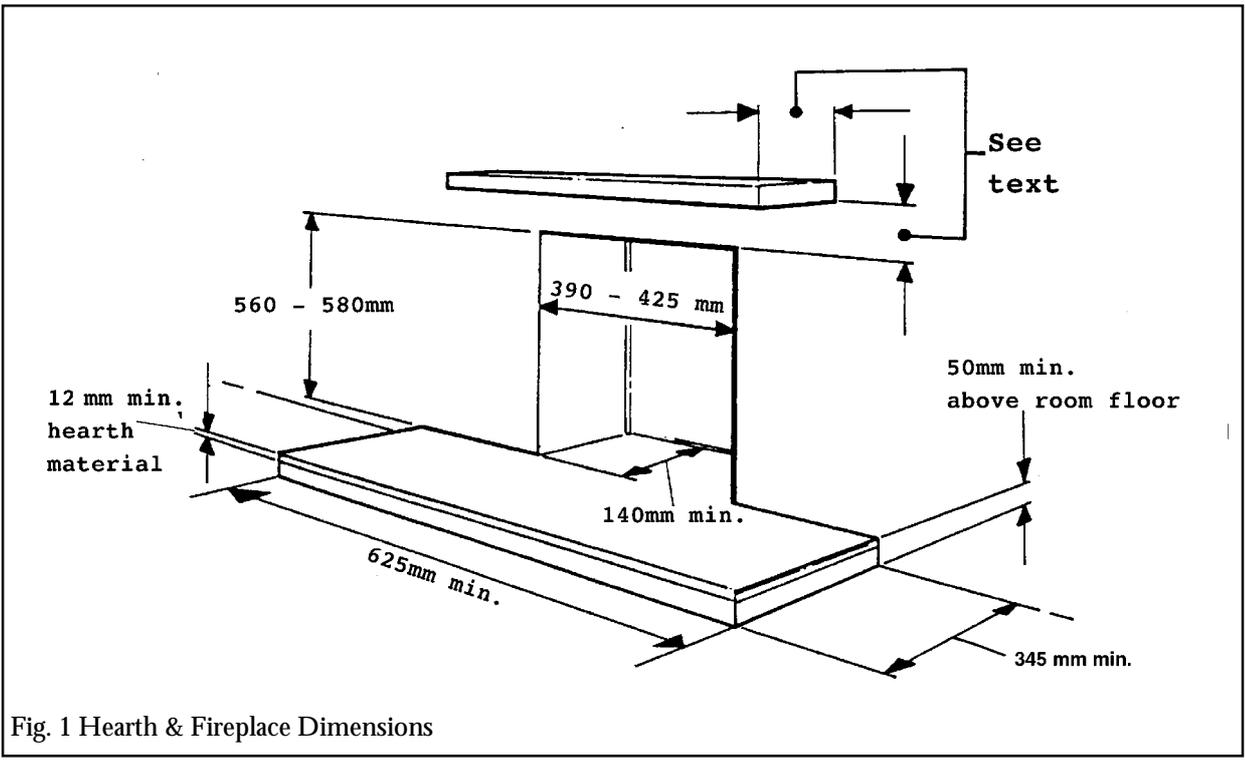

Fig. 1 Hearth & Fireplace Dimensions
- For a shelf deeper than 150mm, add 12.5mm to the clearance for every 25mm of additional shelf depth (see figure 1).
- Make sure that the fire is on a non-combustible hearth and that the hearth is at least the size shown in figure 1.